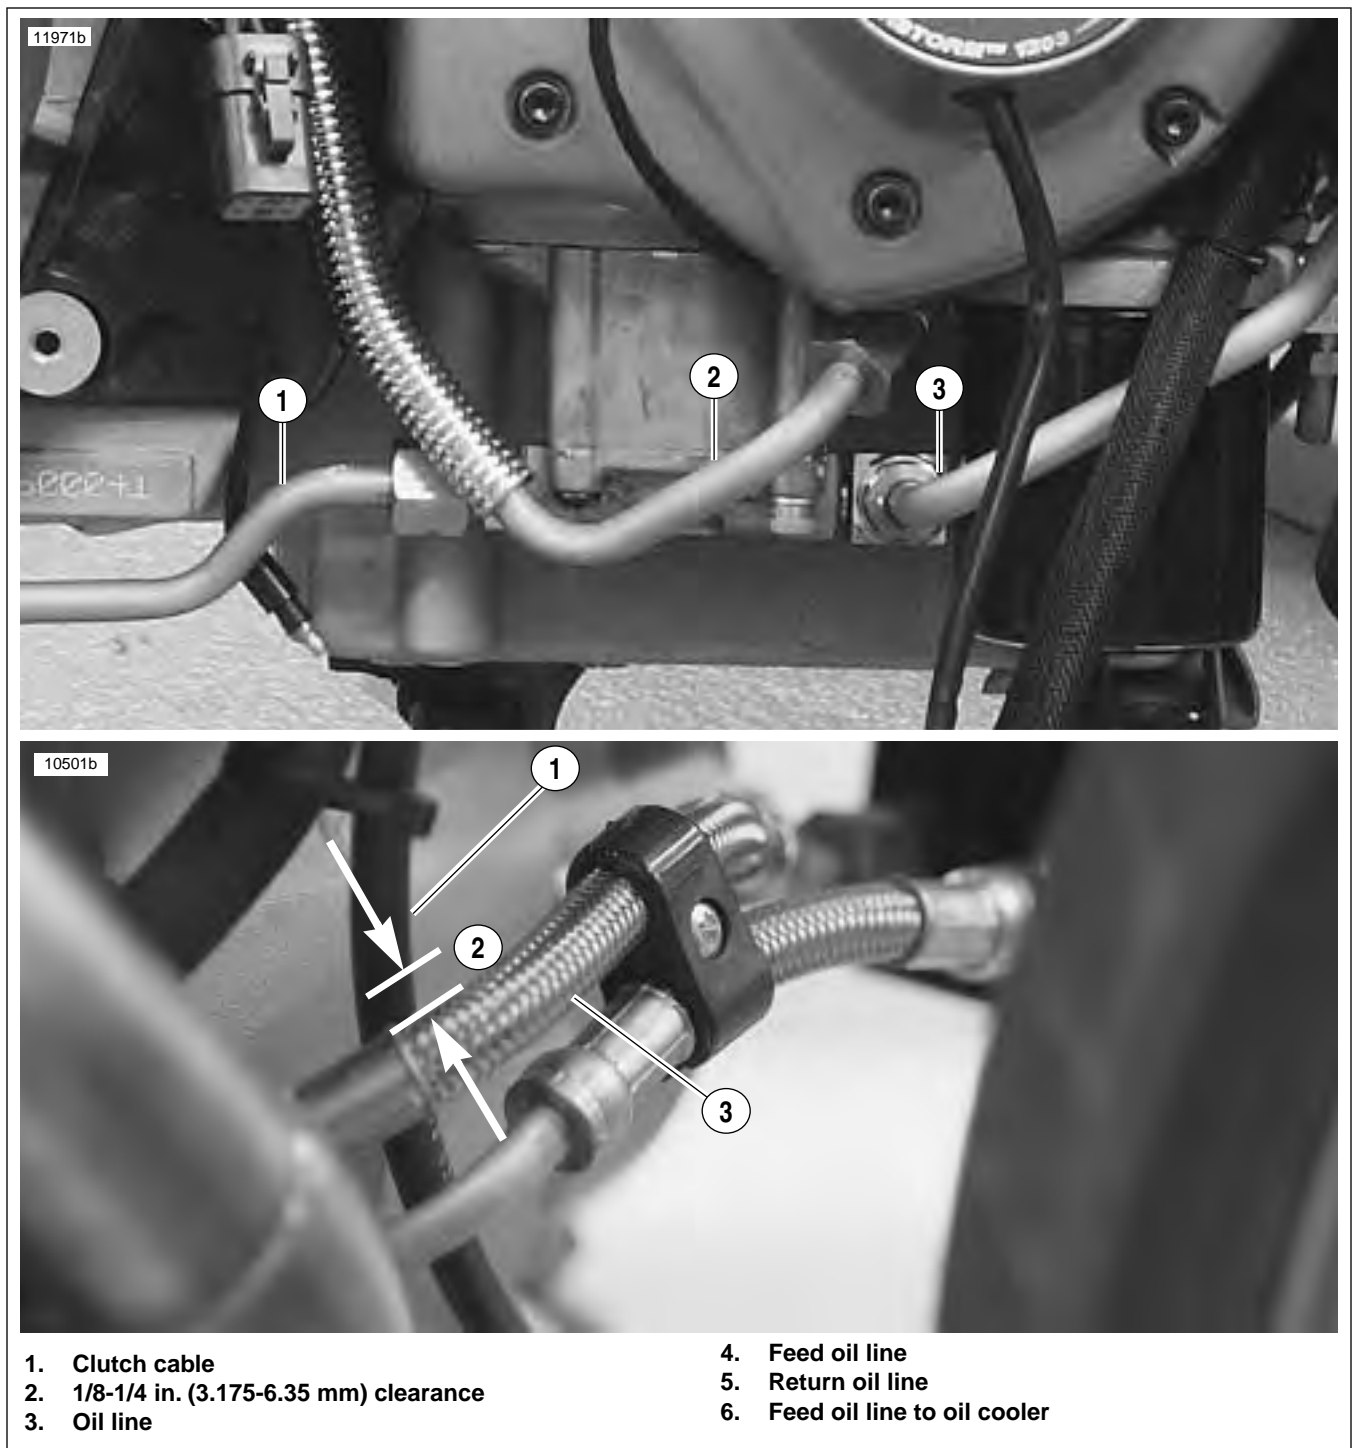

Figure 3-48. Oil Cooler Feed Oil Line Orientation (Approximately 2 O'Clock) and Oil Line Clearances
29. See Figure 3-48. Loosely install the feed oil line that runs from the lower front oil pump fitting to the rear fitting on the oil cooler.
See Figure 3-48. It is important to maintain an orientation of approximately 2 o'clock with the rigid part of the feed oil line running to the oil cooler. Also be aware of the 1/8-1/4 (3.175-6.35 mm) clearance specified between the feed oil line and the clutch cable at the front of the crankcase.